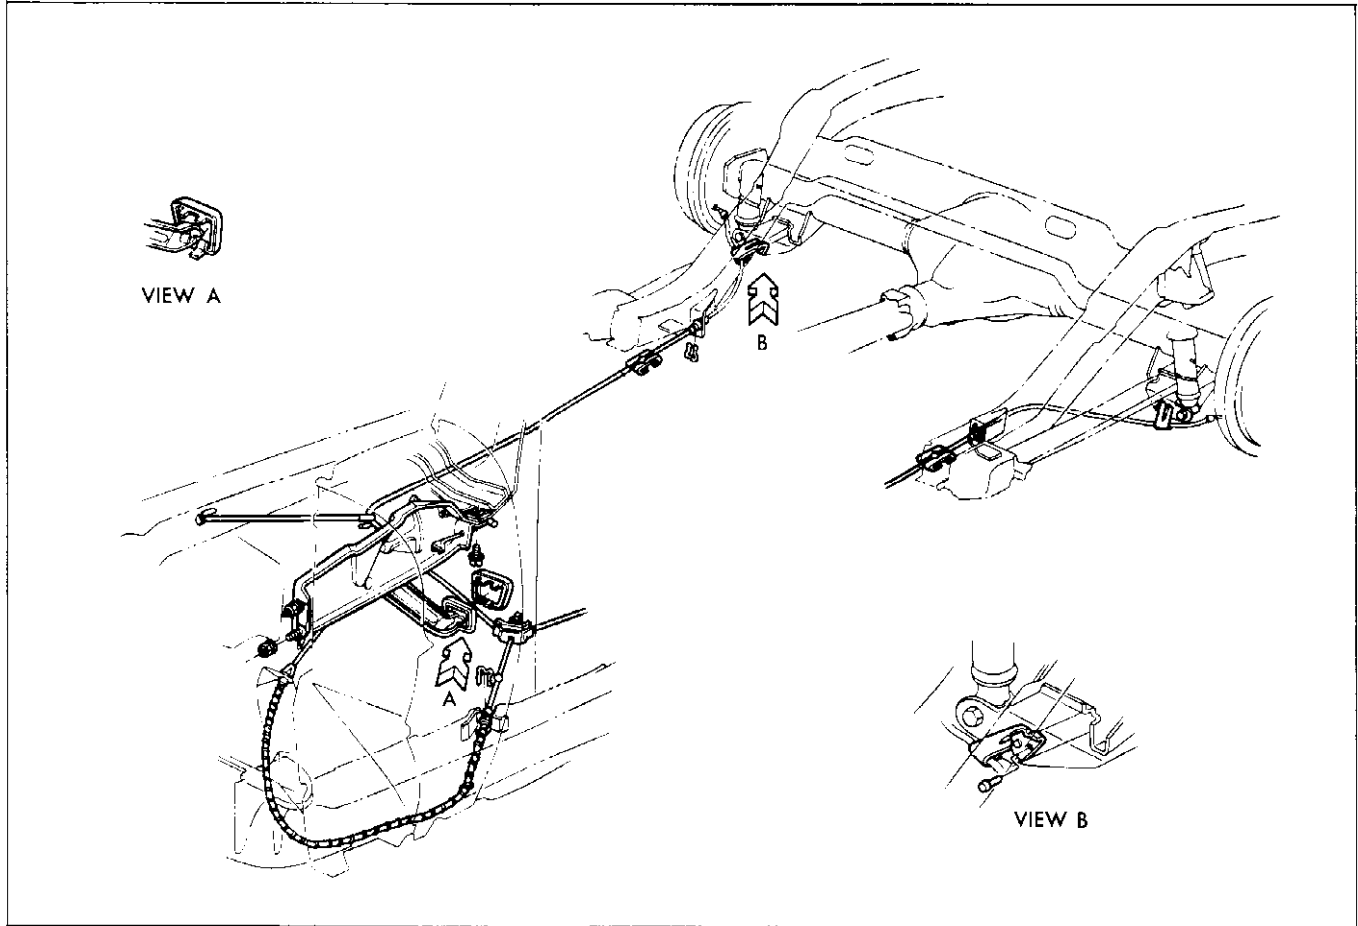

Fig. 5-3 Parking Brake System
1. Place parking brake pedal in released position. (Fig. 5-3).